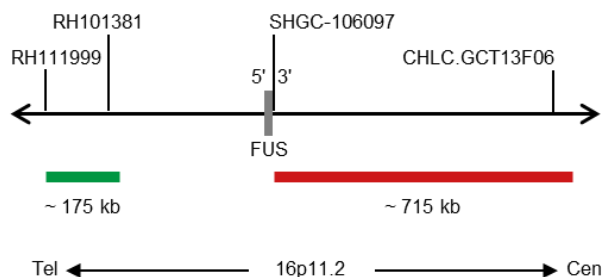

Fig. 1: SPEC FUS Probe map (not to scale)
- Digoxigenin-labeled polynucleotides (~0.50 ng/ μ l), which target sequences mapping in 16p11.2* (chr16:30,663,949-30,840,569) distal to the FUS breakpoint region (see Fig. 1).
- Dinitrophenyl-labeled polynucleotides (~0.75 ng/ μ l), which target sequences mapping in 16p11.2* (chr16:31,213,259-31,927,155) proximal to the FUS breakpoint region (see Fig. 1).